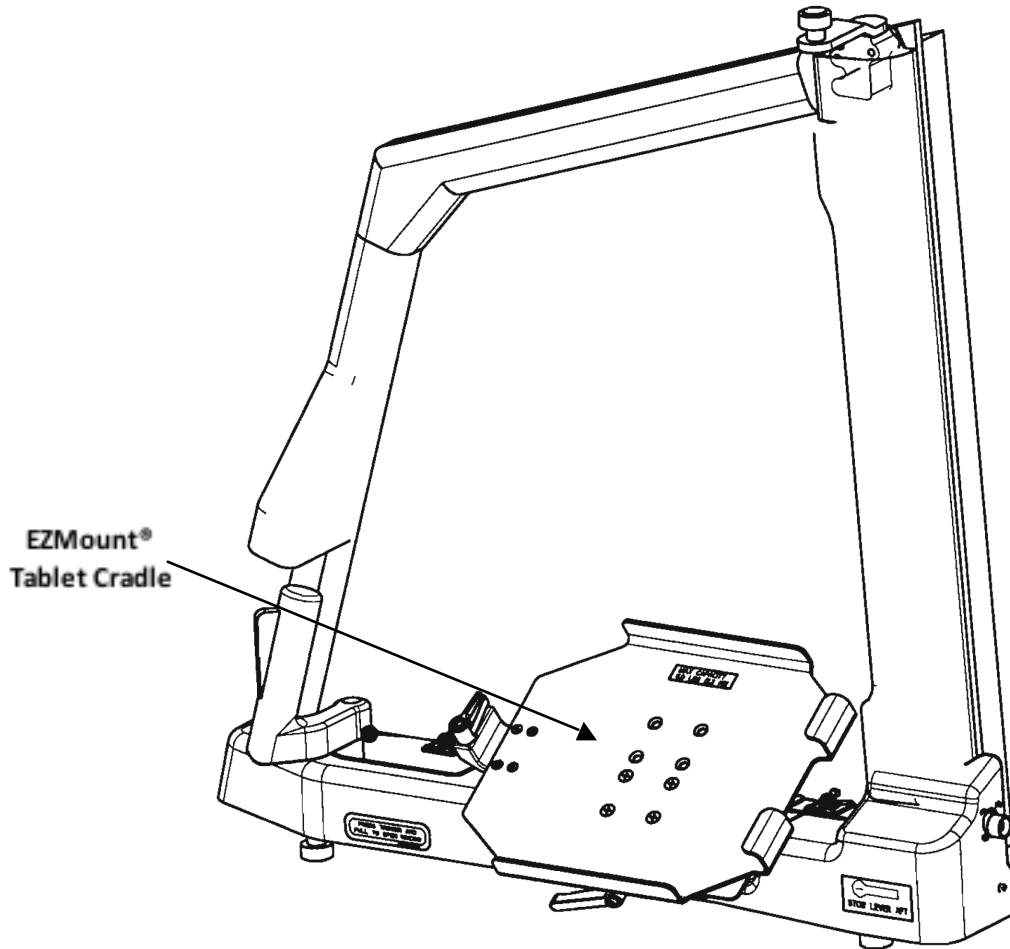

FIGURE 2 - CAPTAIN SIDE WINDOW MODIFIED WITH EZMOUNT™ TABLET CRADLE (8.5" X 11.2")
- » The EZMount® tablet cradle is installed onto an existing EZMount® Pivot mounting assembly. The EZMount® tablet cradle installed for Configuration 1 is approximately 8.0” wide and 10.7” tall. See Figure 2.